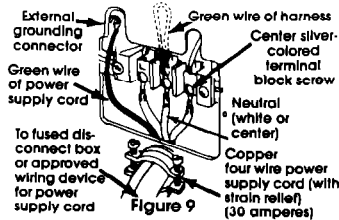

Figure 9
5. Connect the neutral wire (white) of the power supply cord to the center silver-colored terminal of the terminal block and connect the other wires to the outer terminals. See Figure 9. For connecting plain-end field wire, see Figure 6.